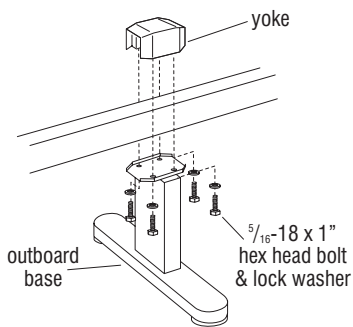

Figure 4
1. Center the "yoke plate" of the outboard base between seats and/or tables closest to the middle of the beam (Figure 4).
2. Place a yoke over the beam and outboard base. Attach the yoke to the outboard base with four  $\frac{5}{16}$ -18 x 1" hex head bolts and lock washers. Tighten bolts diagonally (Figure 4).